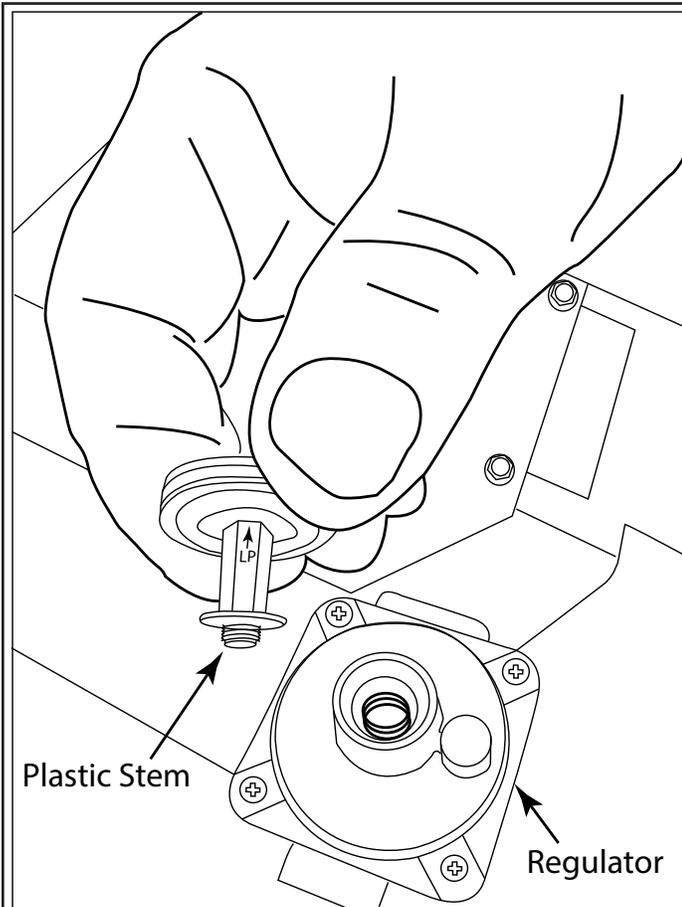

**Fig. 4** Regulator stem shown in NG setting
**Step 5:** On the underneath side of the aluminum cap is a plastic stem. Using a 6mm wrench remove the stem, unscrew the stem (counter-clockwise), turn it over and install the opposite end back into the cap. See Fig. 4.
The gas type is determined with the arrow pointing at the aluminum cap as seen in Figs. 4 and 5 on page 30.